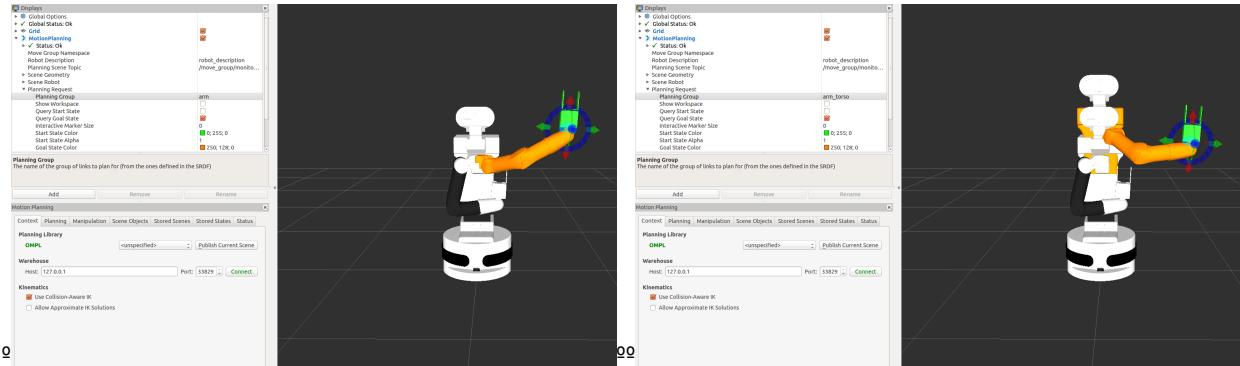

Figure 126: *MoveIt!* graphical interface in rviz. TIAGo with the planning group *arm* (left) and with the planning group *arm_torso* (right).
2. *MoveIt!* uses planning groups to generate solutions for different kinematic chains. Figure 126 shows that by selecting different planning groups, the GUI shows only the relevant “flying end-effectors”.